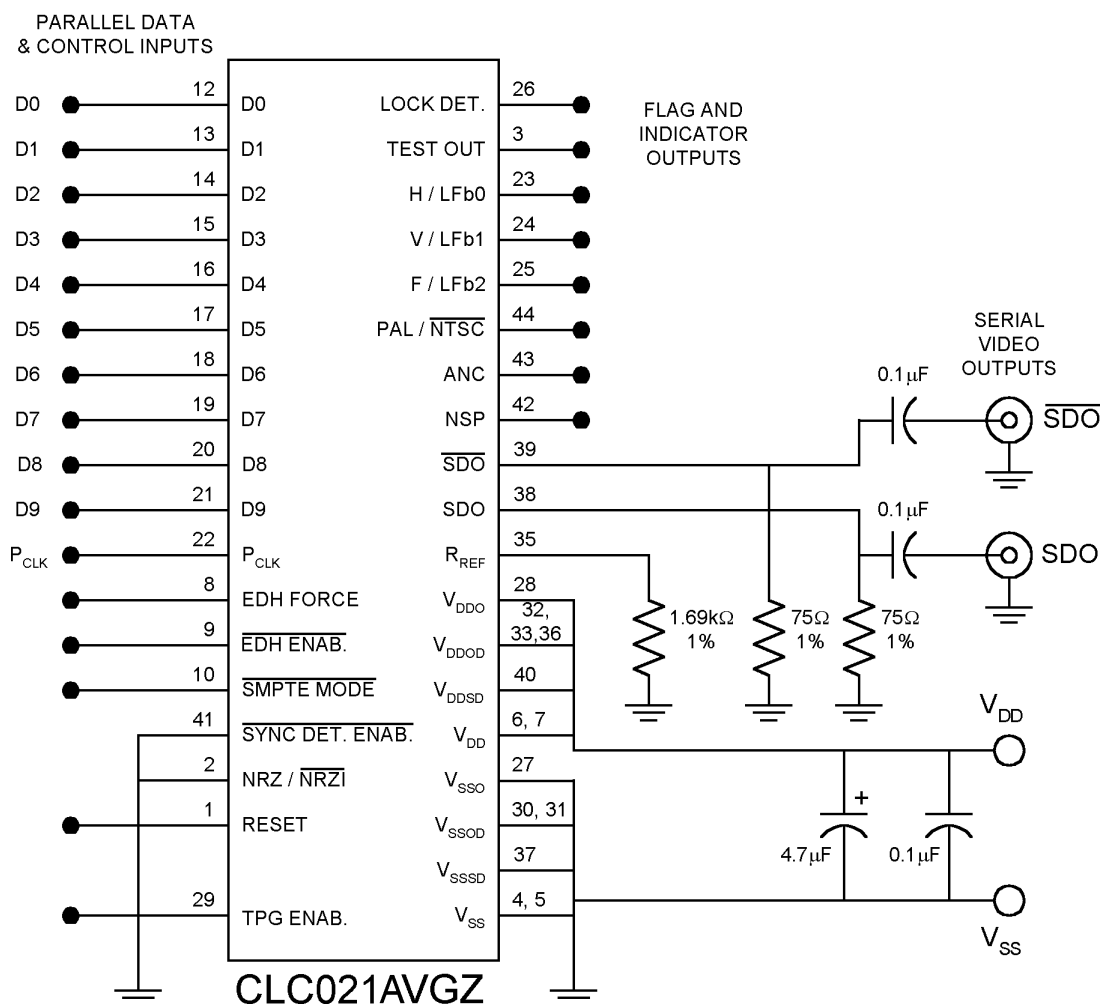

Figure 3. Test Circuit
| V SDO | Serial Driver Output Voltage   | R L = 75Ω 1%,R REF = 1.69 kΩ 1%,See <a href="#">Figure 3</a>                                                           | SDO, $\overline{\text{SDO}}$ | 700             | 800 | 900                    | mV P-P |
| I DD  | Power Supply Current, Total    | R L = 75Ω 1%,R REF = 1.69 kΩ 1%,P CLK = 27 MHz, NTSCColour Bar Pattern,See <a href="#">Figure 3</a> |                              |                 | 47  | 60                     | mA                |
| V SDO | Serial Driver Output Voltage   | R L = 75Ω 1%,R REF = 1.69 kΩ 1%,See <a href="#">Figure 3</a>                                                           | SDO, $\overline{\text{SDO}}$ | 720             | 800 | 880                    | mV P-P |
| I DD  | Power Supply Current, Total    | R L = 75Ω 1%,R REF = 1.69 kΩ 1%,P CLK = 27 MHz, NTSCColour Bar Pattern,See <a href="#">Figure 3</a> |                              |                 | 33  | 55                     | mA                |
| t j                  | Serial Output Jitter            | 270 Mbps (3) , See <a href="#">Figure 3</a> | SDO, $\overline{\text{SDO}}$         |     | 220 |      | pS p-p |
(1) Typical values are stated for VDD = +5.0V (CLC021AVGZ-5.0) or +3.3V (CLC021AVGZ-3.3) and TA = +25°C.
(2) RL = 75Ω, AC-coupled @ 270 Mbps, RREF = 1.69 kΩ 1%, See TEST LOADS and Figure 3.
(3) CLC021 mounted in the SD021EVK board, configured in BIST mode (NTSC colour bars) with PCLK = 27 MHz derived from Tektronix TG2000 black-burst reference. Timing jitter measured with Tektronix VM700T using jitter measurement FFT mode, frame rate, 1 kHz filter bandwidth, Hanning window.
(4) Specification is ensured by design.
(5) Measured from rising-edge of first PCLK cycle until Lock Detect output goes high (true).